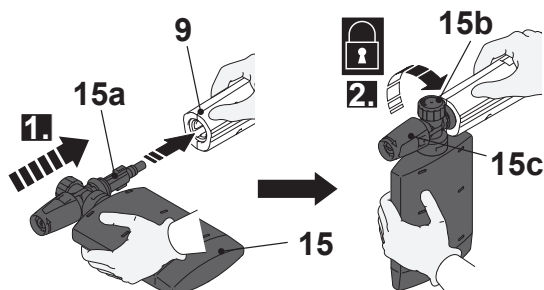

Fig. 13
2. Align and insert the tongues (15a) of the soap tank (15) with the grooves of the spray gun (9) connection port (Fig. 13, step 1).